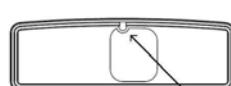

Figure 11 – Replacing the silicone gasket
2. If you have removed the silicone gasket, replace it securely on the water chamber base within the channel provided for this purpose (Figure 11). Otherwise, the device will not deliver air correctly.